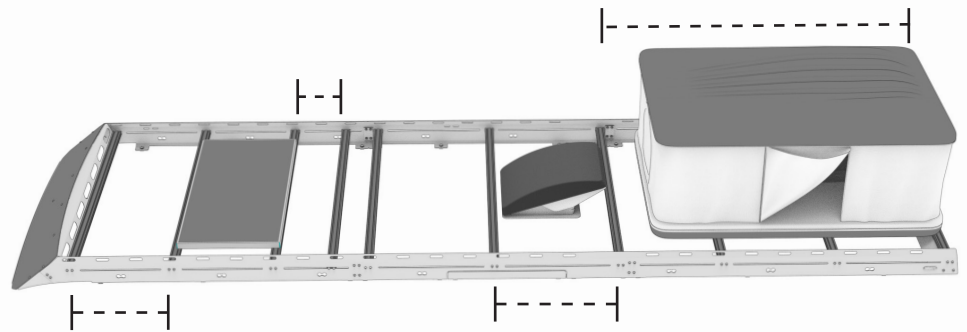

FIG 8
**3.1 Layout Crossbar Locations:** Position the crossbars in your desired locations, loosely threading in the **1/4-20" Flange Head Screws** to hold in place (**FIG 8**).